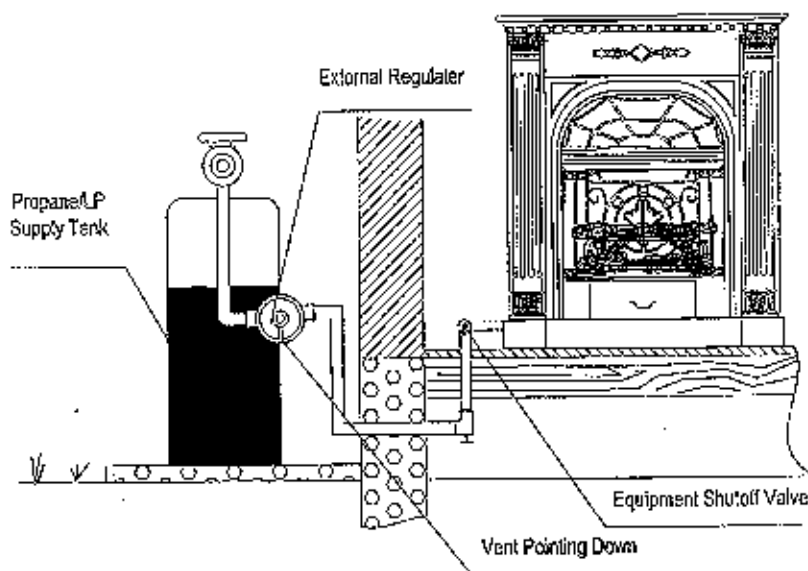

Figure 9 - Checking Gas Joints
4. Check all joints from equipment shutoff valve to control valve (see Figure 9). Apply mixture of liquid soap and water to gas joints. Bubbles forming show a leak.
3. Check all joints from gas meter to equipment shutoff valve (see Figure 9). Apply mixture of liquid soap and water to gas joints. Bubbles forming show a leak.